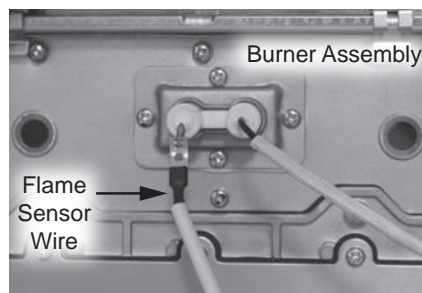

Figure 119 - Removing flame sensor wire
5 Locate flame sensor wire attached to burner assembly. Disconnect wire and place aside for easy access to the gas manifold. See Figure 119.
- 32 Locate the flame sensor previously disconnected from burner assembly in **Step 5**. Connect flame sensor wire. See Figure 119.